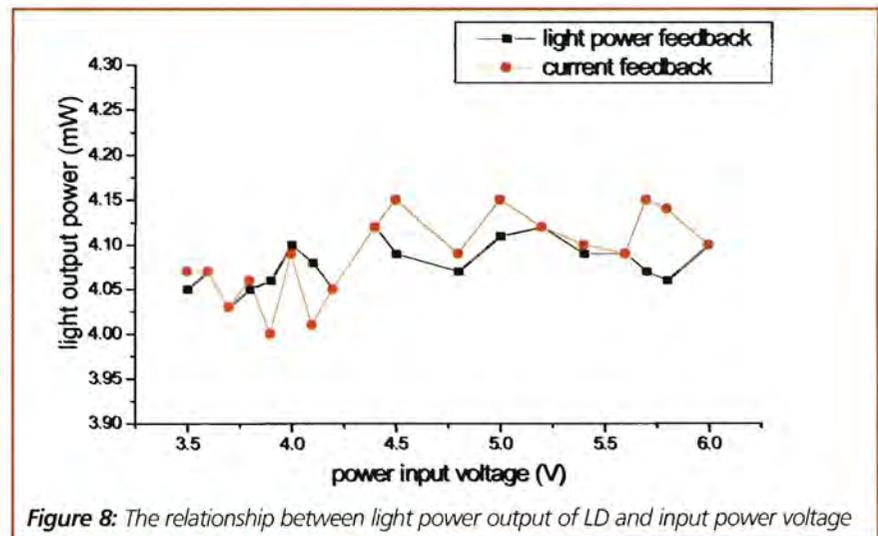

Figure 8: The relationship between light power output of LD and input power voltage
**Figure 8** shows that when the power input voltage is increasing from 3.5V to 6.0V, the light output power stability degree is 1.9% (from 4.05mW to 4.13mW) with light power feedback pattern, and 3.1% (from 4.02mW to 4.15mW) with current feedback pattern.